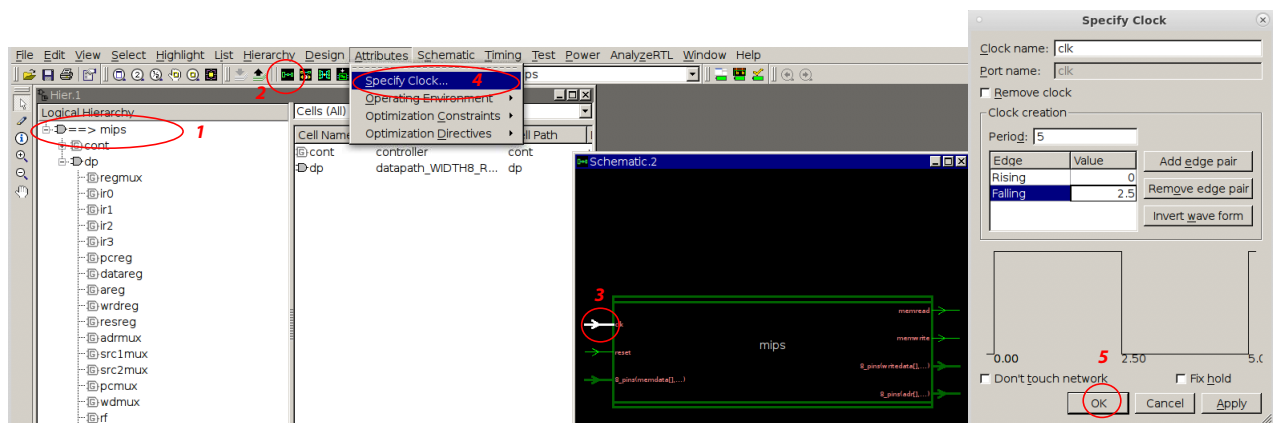

Figure 8: Clock generation
1. Select the *mips* instance in the hierarchy view (step 1 in Fig. 8) and open its schematic view with the Create schematic icon (step 2). This will open a new tab with the symbol view of the component.
4. Define a clock period of 30ns, as shown in Fig 8 and a pulse width of 15ns (the unit is defined in the *.db* file of your standard library. In our case, the unit is *ns*). The clock waveform should be displayed if the clock specification is correct. The selected *clk* pin is used as the port name.